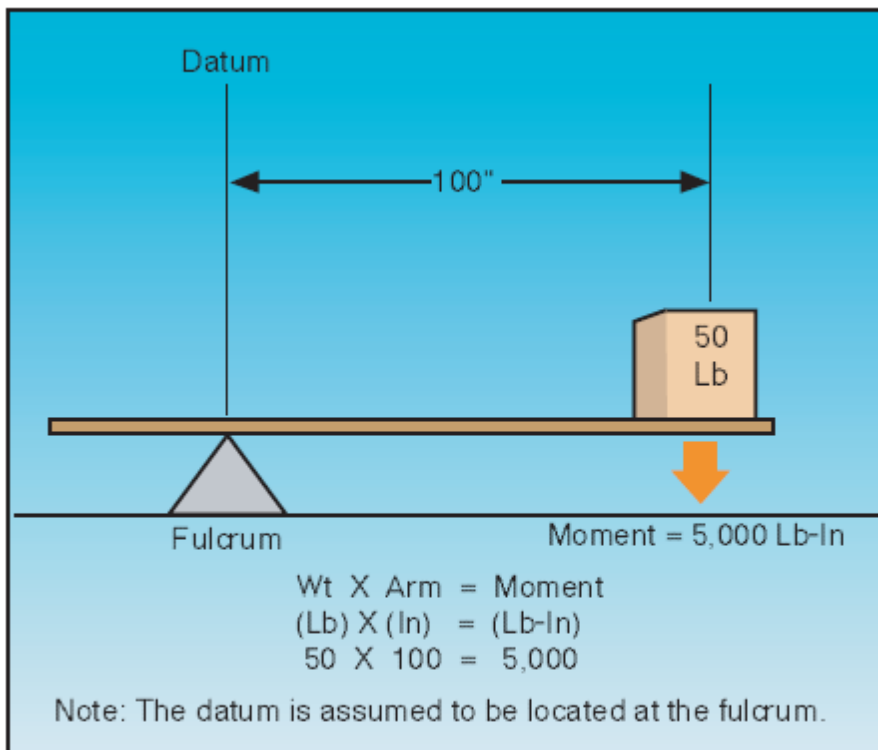

Figure 8-3. Determining moments.
- 7) Using Figure 8-3, how much weight would be required to balance the fulcrum? Assume 50 inches from the Datum to the forward end of the plank.